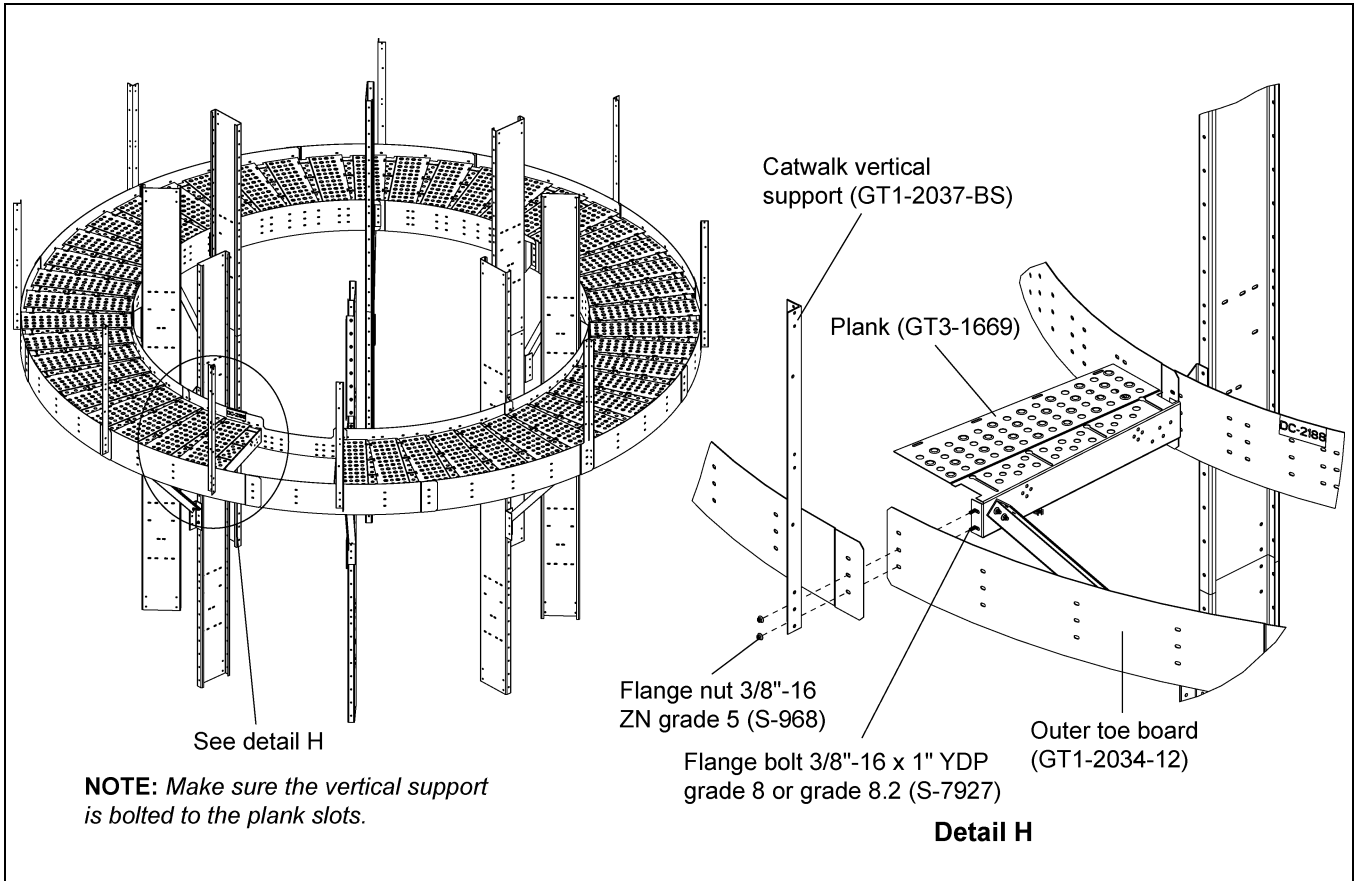
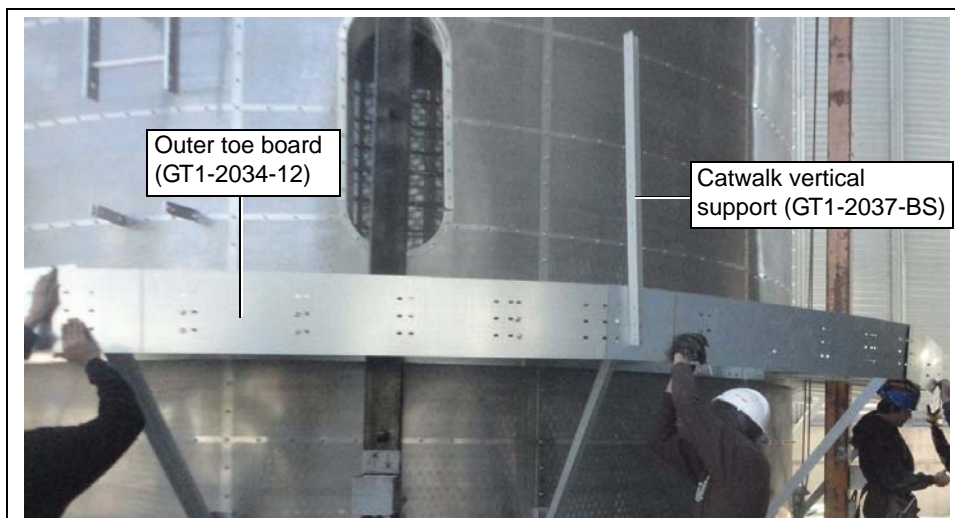

Figure 4R
Figure 4S
1. Install all the outer toe boards (GT1-2034-12) to the planks (GT3-1669). (See Figure 4R.)
2. When installing the outer toe board (GT1-2034-12) with planks (GT3-1669), install the catwalk vertical support (GT1-2037-BS) simultaneously at proper locations using 3/8"-16 x 1" JS grade 8 or grade 8.2 bolts (S-7485) and 3/8"-16 ZN grade 5 nuts (S-968). (See Figure 4R and Figure 4S.)